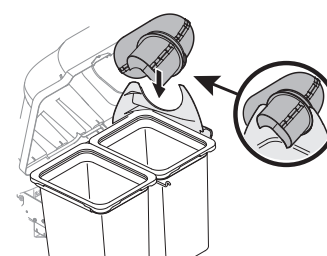

Figure 27
7. With the bagger cover open, install the upper chute tube over the chute tube extension, and rest the top so that the chute support sits in the upper chute support groove. See Figure 27.